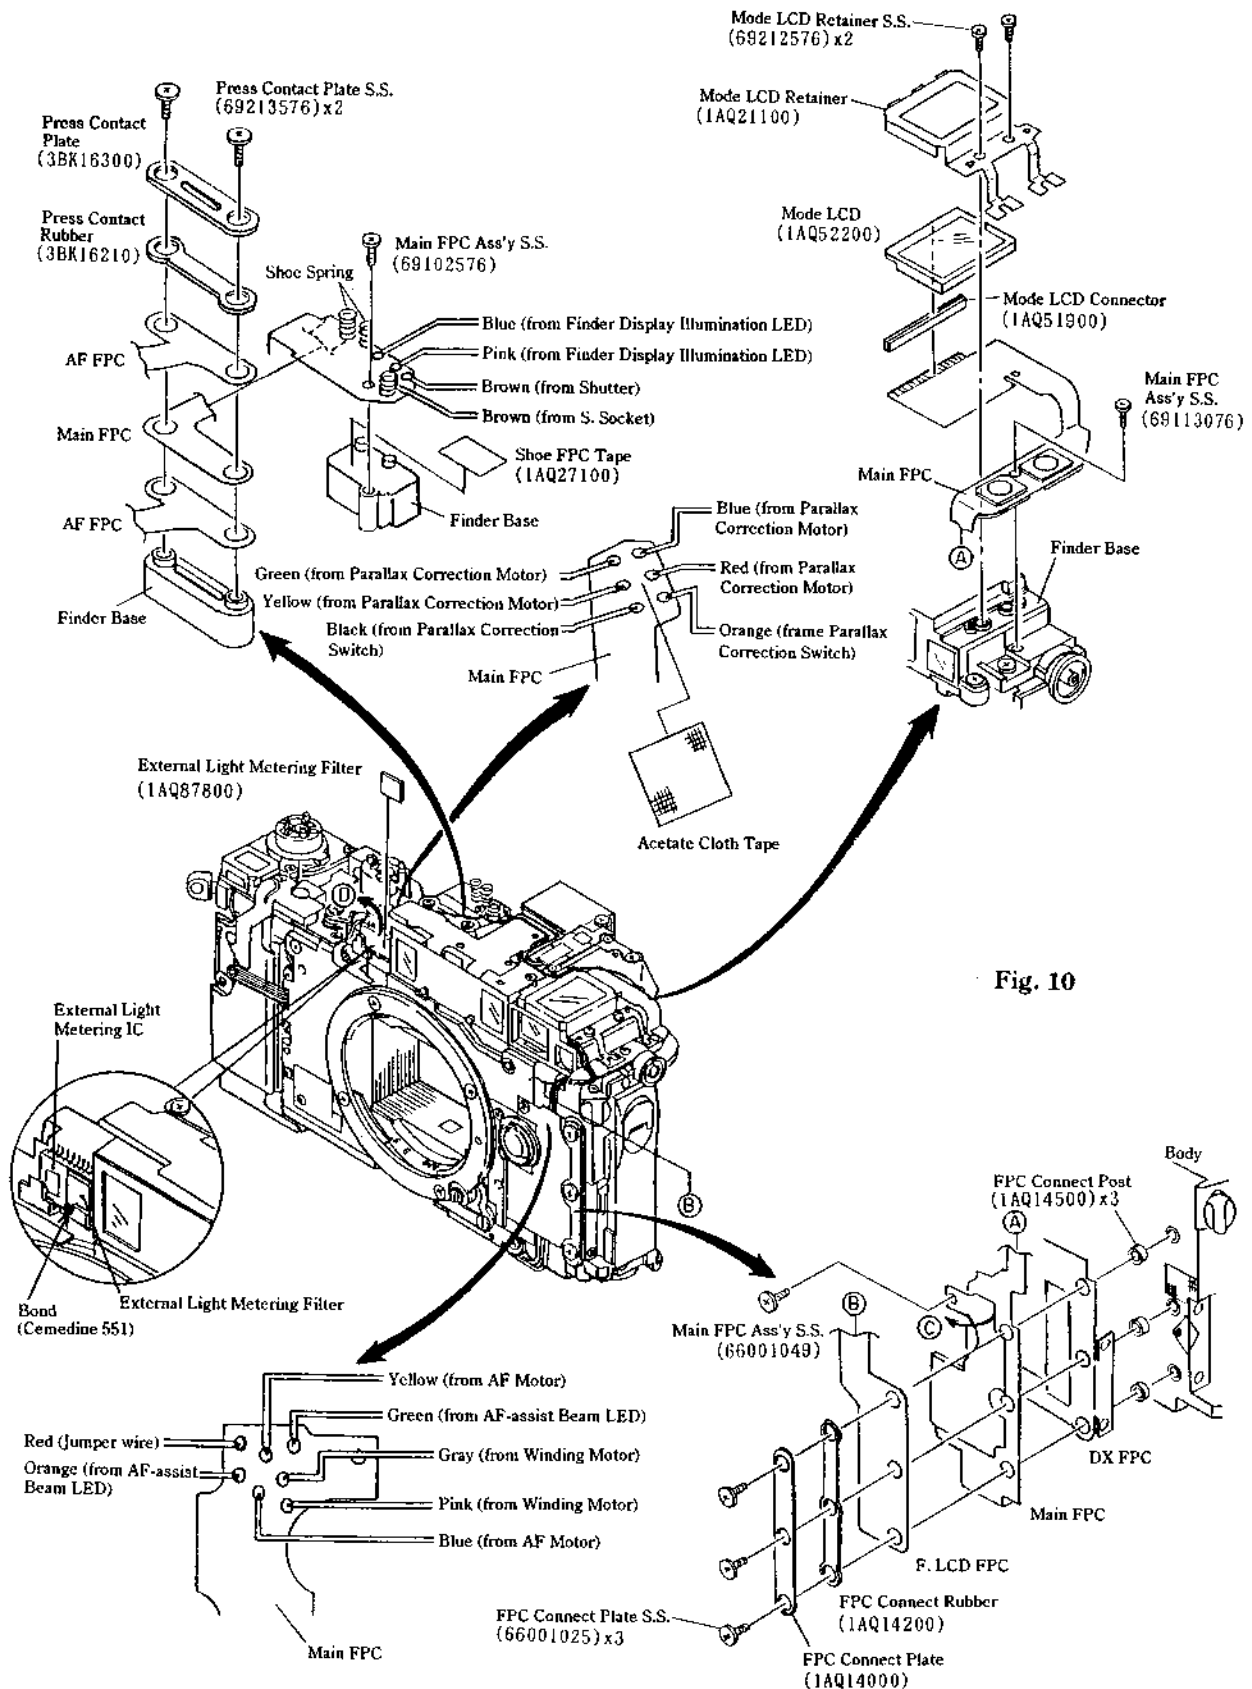

Fig. 10
(Top Right of Body) (See Fig. 10)
- 13) Remove the External Light Metering IC portion from the Finder Base in the direction of the arrow ㉔ . (See Fig. 10)
- (Front Right of Body) (See Fig. 10)